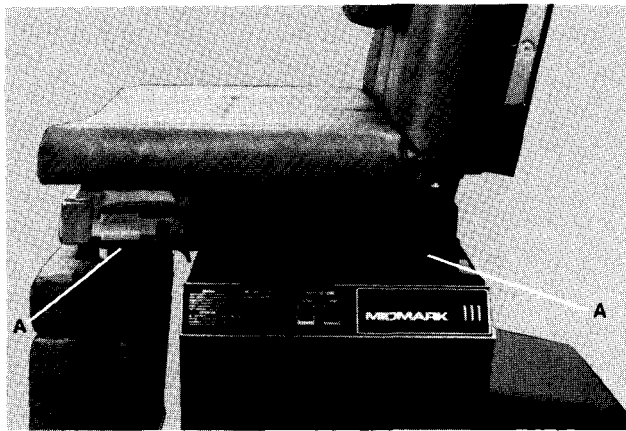

Fig. 30
- 5) With two assistants lifting on the table top at point A, Fig. 30, one assistant on each side of the table:
- a. Remove the (3) hose fittings from the defective cylinder using 7/16" and 9/16" wrenches.